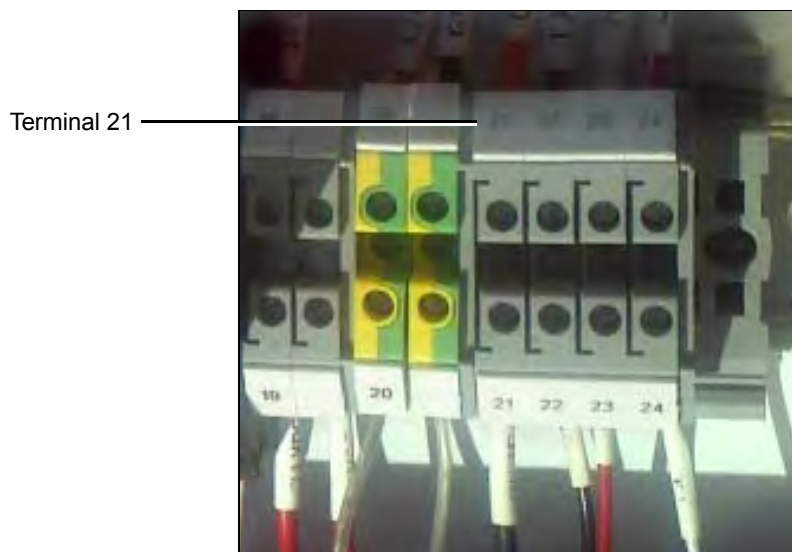

Figure 3: Terminal 21 (before 2nd wire is installed)
7. Crimp the two together with the double ferrule and reinstall the wires into terminal 21 (see Figure 3).